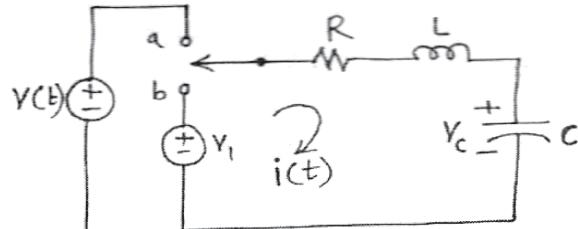

Fig. 5
- b) In the network shown in Fig. 5, switch is moved from position a to b at $t = 0$. Just before this switching the initial conditions were $i(0^-) = 2 \text{ A}$ and $V_c(0^-) = 2 \text{ V}$. Find the expression for current $i(t)$ using Laplace Transform method. Assume $R = 3 \Omega$, $L = 1 \text{ H}$, $C = 0.5 \mu\text{F}$, $V_i = 5 \text{ V}$. [6]